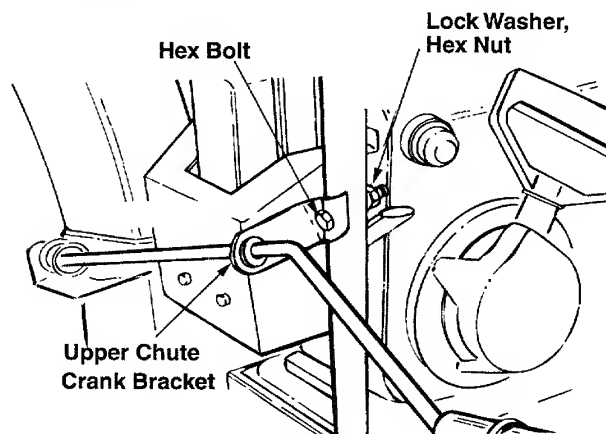

Figure 7
- Insert 5/16 x 1.5" hex bolt (from group F of the hardware pack on page 6) through the upper chute crank bracket. This bracket is already assembled on the chute crank. See Figure 7 for the position of the chute crank on the snow thrower.